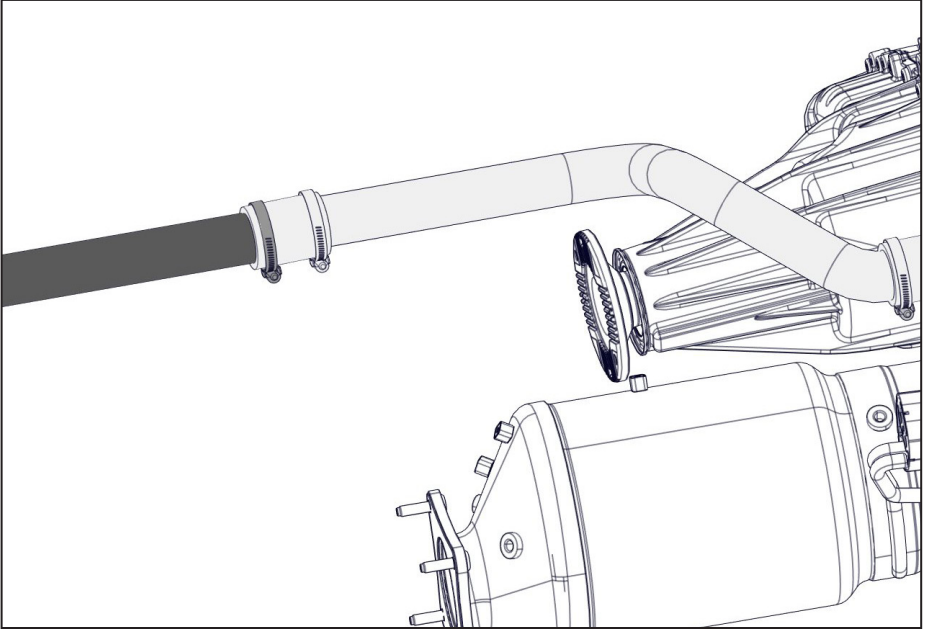

Figure 26 — Secure filter side intake tube extension
- ☐ Install the metal intake tube extension and secure it using a gear clamp (Figure 26)